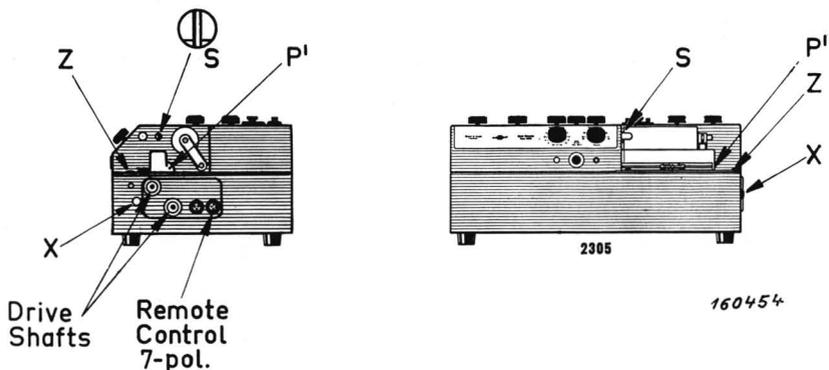

Fig. 2.2. Front and side view of the Level Recorder Type 2305.
7. Set the Synchronizing Gear Lever X in its outer position. Make sure that the Lever is pulled completely to the out position by moving the grooved finger wheel Z to and fro at the same time as pulling. (The actual paper drive speed now corresponds to the small figures marked around the PAPER SPEED knob). See Fig. 2.2.
9. By means of the finger wheel Z (Fig. 2.2) adjust the paper until the recorder stylus is on the mark 20 Hz of the pre-calibrated recording paper.